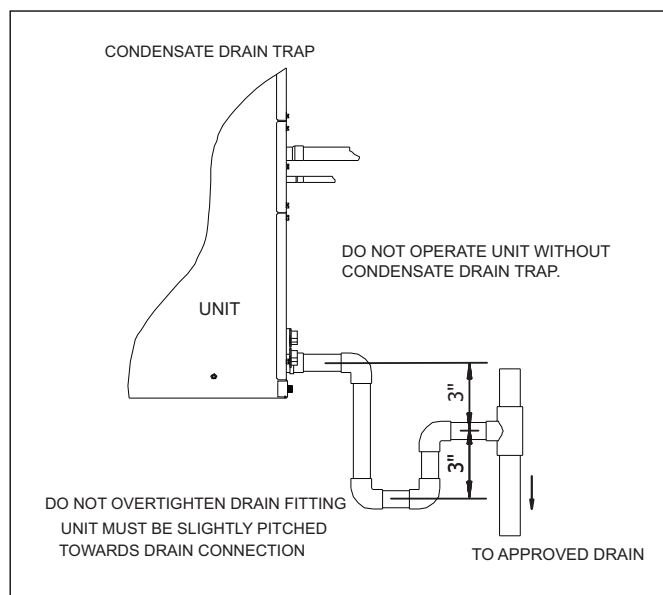

Figure 16
- ▶ Remove bolts manually, remove air filter cover, see Figure 16.